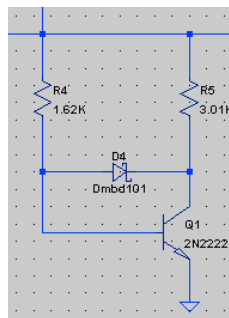
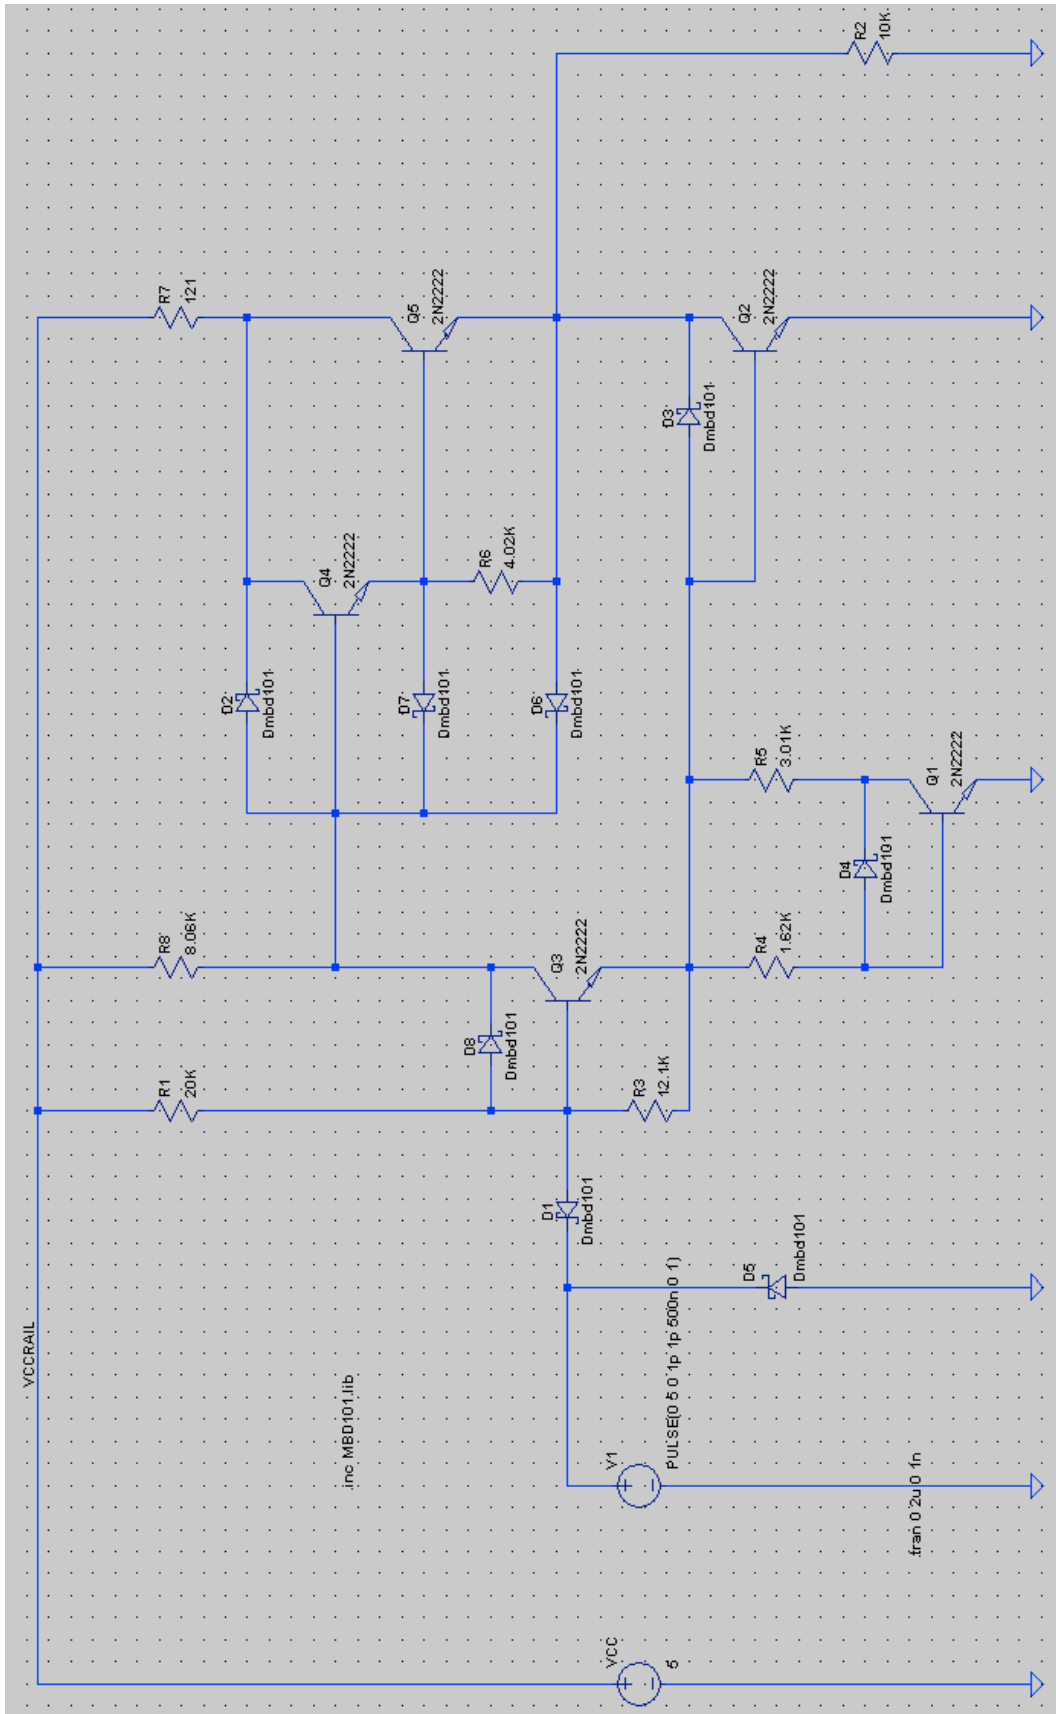

Figure 3: LSTTL inverter active pull-down subcircuit.
Figure 4: LSTTL inverter logic gate.
- 2.5. Save and close your TTL inverter schematic. Create a new schematic called “Schottky TTL Inverter”. Construct the LSTTL circuit shown in Figure 4. Use the MBD101.lib library created in Section 1 to implement the Schottky diodes. As in the TTL case, measure the low-to-high and high-to-low output propagation delays t_{PLH} and t_{PHL} . Compare these propagation delays with those obtained for the TTL case.
- 2.7. All of the BJTs in the LSTTL inverter circuit are Schottky transistors with the exception of Q5 (see the Figure 4). With the aid of appropriate measurements, explain why this is the case. Does this conform with the theory?
- 2.8. Consider the sub-circuit shown of Figure 4 shown in Figure 3. Connect a single DC voltage source from the unconnected wires to ground. By conducting a DC input voltage sweep and measuring the corresponding current, show that this circuit performs the role of an active pull-down. Explain what this means in terms of resistance versus voltage, and how this helps in the switching of the output stage BJT Q2.